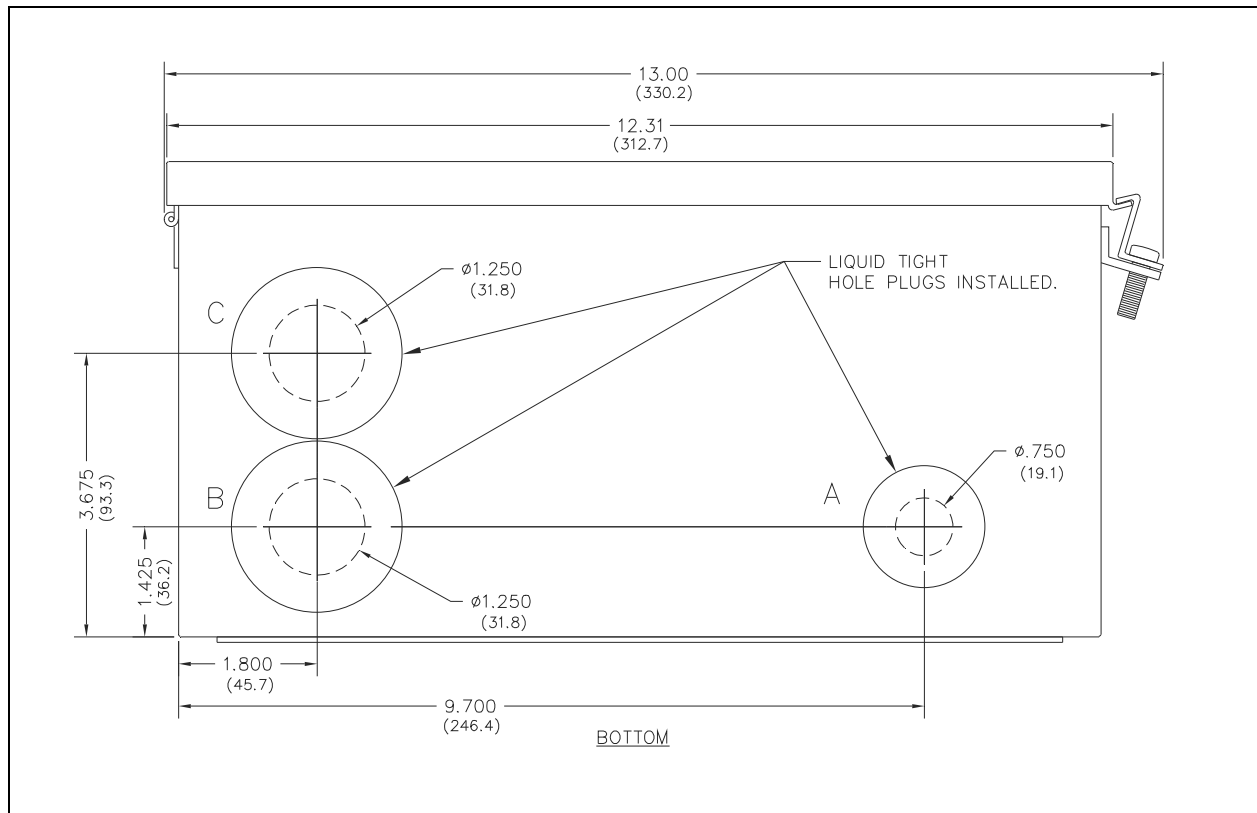

Figure 3. IP MRM Cable Entries
- GAI-Tronics supplies the Model 379-003 IP MRM station enclosure with two 1-1/4-inch holes and one 3/4-inch hole with sealing hole plugs (see Figure 3). Remove hole plugs and install (*customer supplied*) liquid tight conduit or cable glands when connecting field wiring.
- Use entry hole **A** for ac input power wiring. Use entry holes **B** and **C** for signal/control and/or Ethernet connections (see Figure 3).